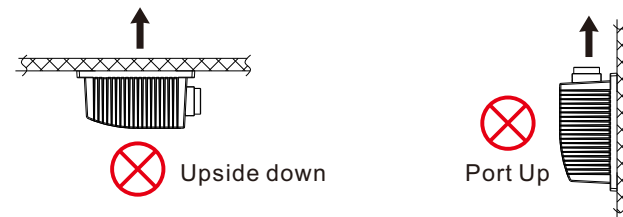

Fig.3
**b. Wrong ways of mounting (see Fig.3):**